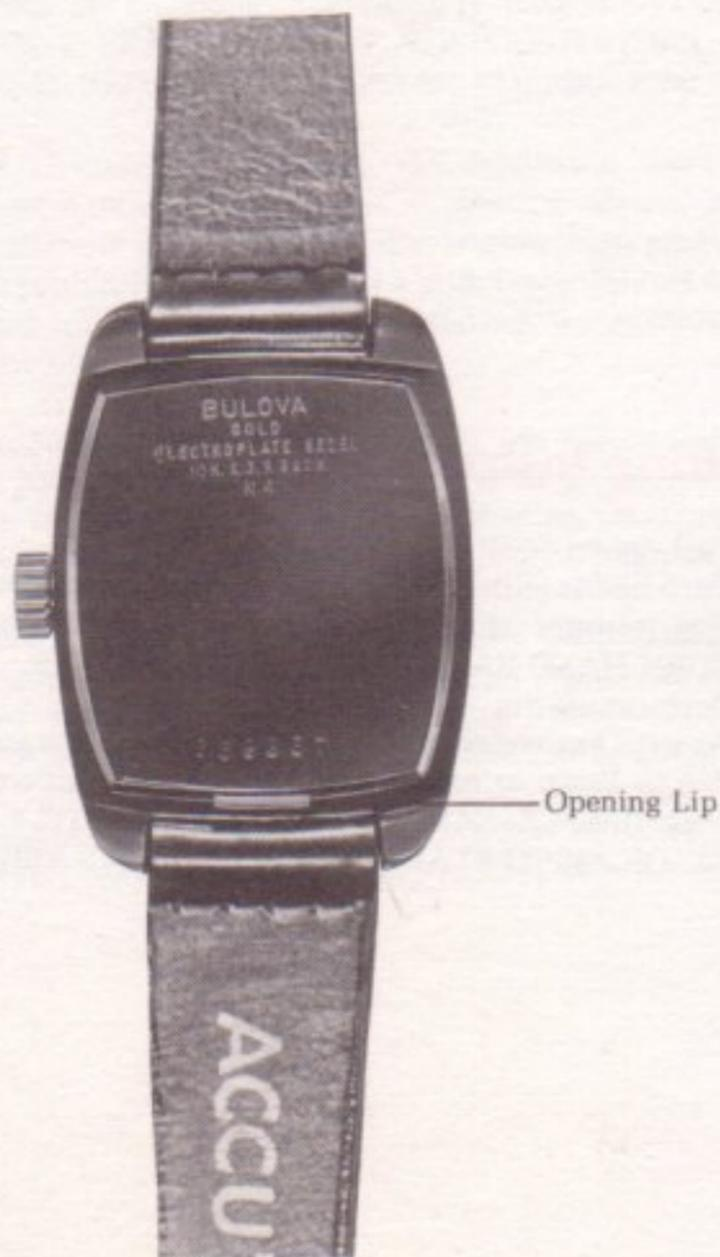

Fig. 2
3. Fold a small piece of plastic over a case knife and, with the plastic between the blade and the back, press knife under opening lip. (Fig. 2)